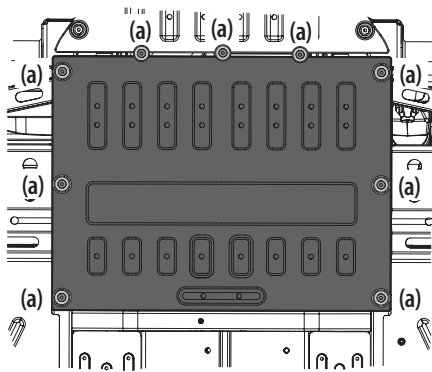

Figure 5-31
1. Remove the nine Allen-head bolts (a) and washers (a) securing the middle skid plate to the bottom of the utility vehicle. See Figure 5-31.